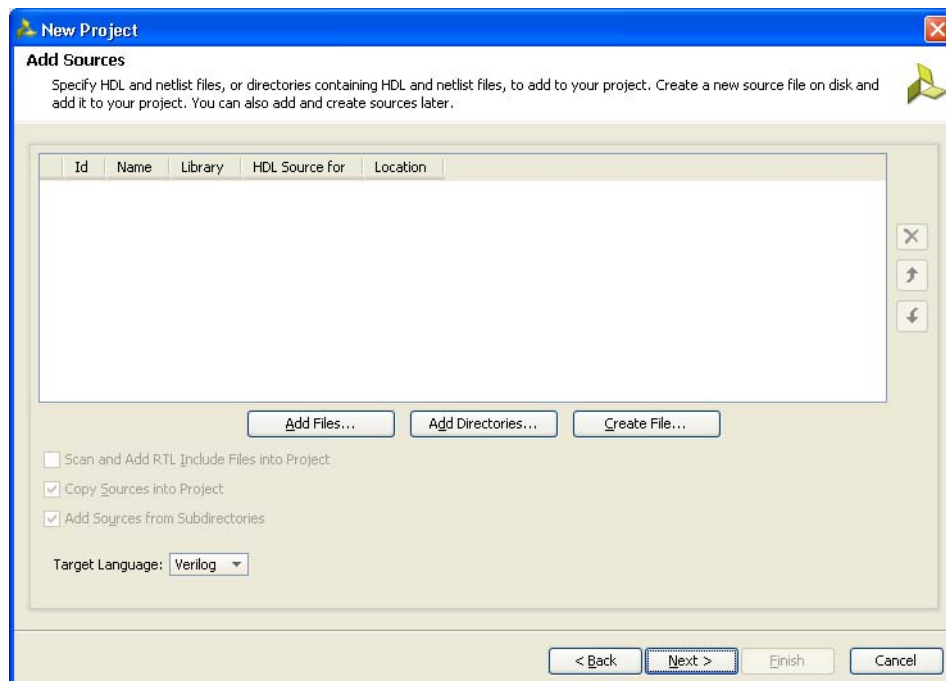

Figure 5-5: Add Sources
- Click **Next** to proceed to the **Add Sources** page (Figure 5-5). RTL files can be added to the project in this page. If the project was not created earlier, proceed to the next page.